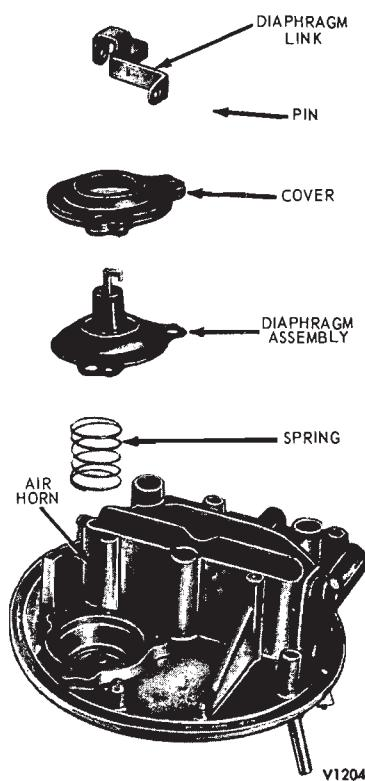

FIG. 9—Choke Diaphragm Assembly
2. Remove the diaphragm cover attaching screws, then lift the cover, diaphragm assembly and spring from the air horn (Fig. 9). It will not be necessary to remove the diaphragm stop screw on the underside of the air horn.
5. Remove the choke diaphragm assembly (Fig. 9).